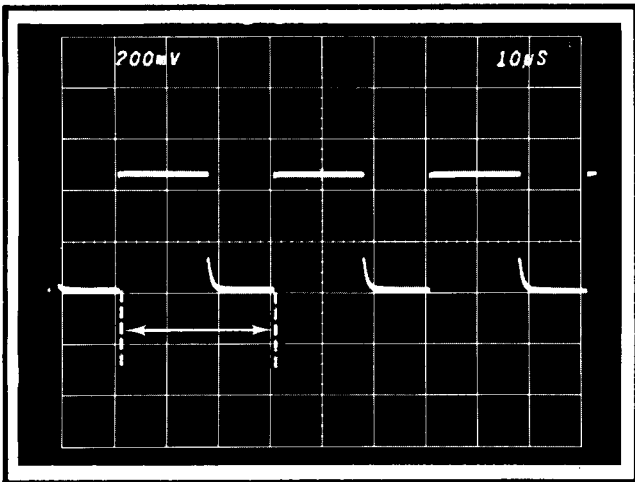

Fig. 5-13. Trigger holdoff measurement.
c. Check the display for trigger holdoff times as given in Table 5-5. Holdoff is the time between the leading positive-going portions of adjacent trigger pulses. See Fig. 5-13. Reset the 7B50 Time/Div switch as required.